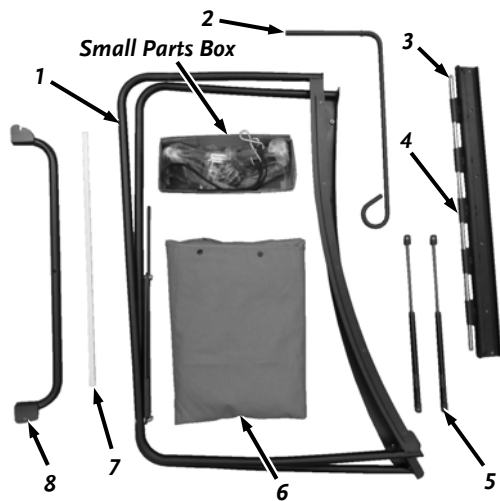

Figure 4
- Large Parts Box (see Figure 4)
Large Parts Box Contents (Figure 4):